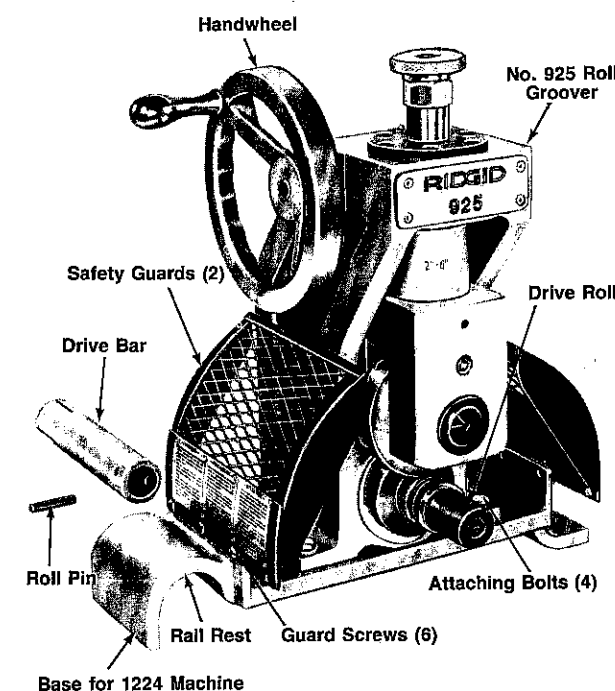

Figure 9. No. 925-4 Subassembly
1. Position the 925 on the Base as shown in Figure 9. Note position of Handwheel, Drive Roll and operator side Rail Rest.
3. Attach Safety Guards (2) to Base with three screws each. Assure Safety Guards are positioned toward Drive Roll.